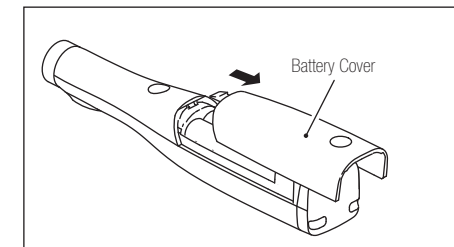

Fig. 15
- 4) Remove the Battery Cover by sliding it toward the charging terminal. (Fig. 15)